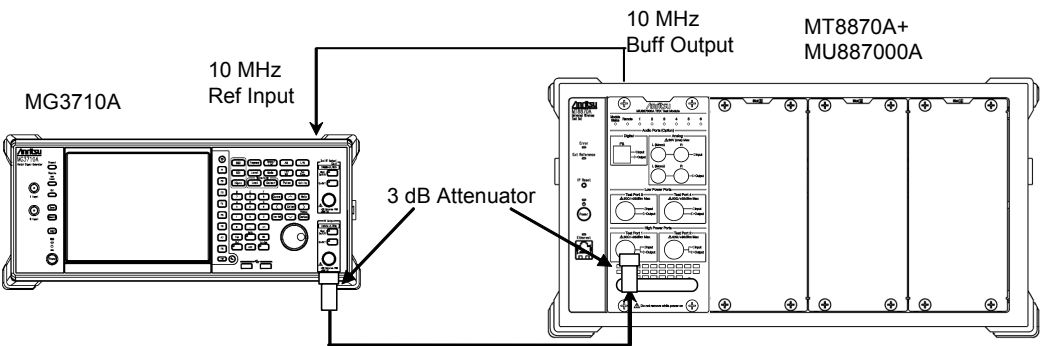

Figure 5.3.4-1 Setup for Measuring Frequency Error
1. Setup the instruments as shown in Figure 5.3.4-1.